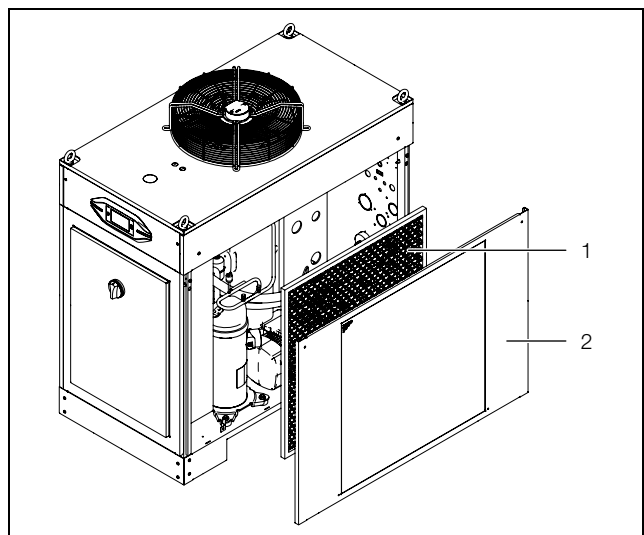

Fig. 24: Remove the side panel
■ Dismantle the side panel (fig. 24, item 2) of the chiller, and place it somewhere safe.
- Insert the metal filter (fig. 24, item 1) inside the side panel into the designated frame and secure it.